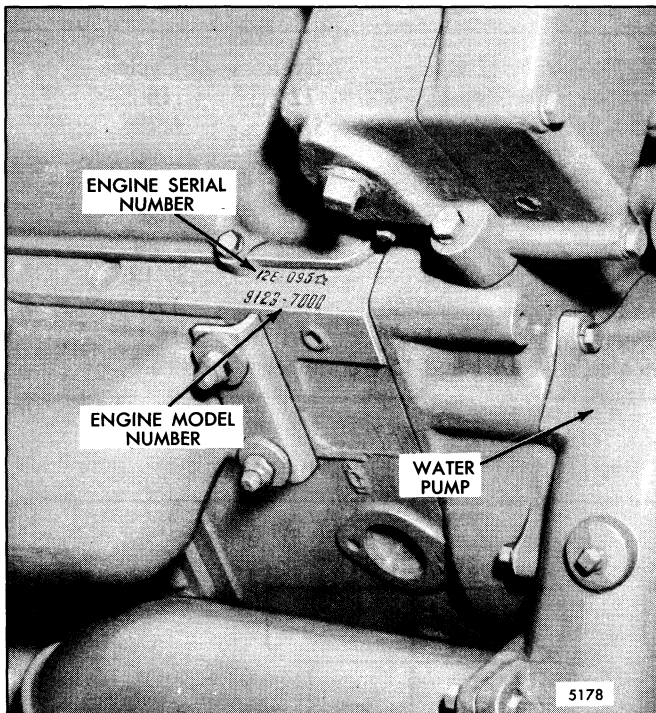

Fig. 4 - Engine Serial and Model Number Identification
- The unit serial number on 8V engines is stamped on the rocker cover rail at the left, rear corner of the block. The unit serial number on 12 V and 16V engines is stamped on the rocker cover rail at the right, front corner of the block (Fig. 4).